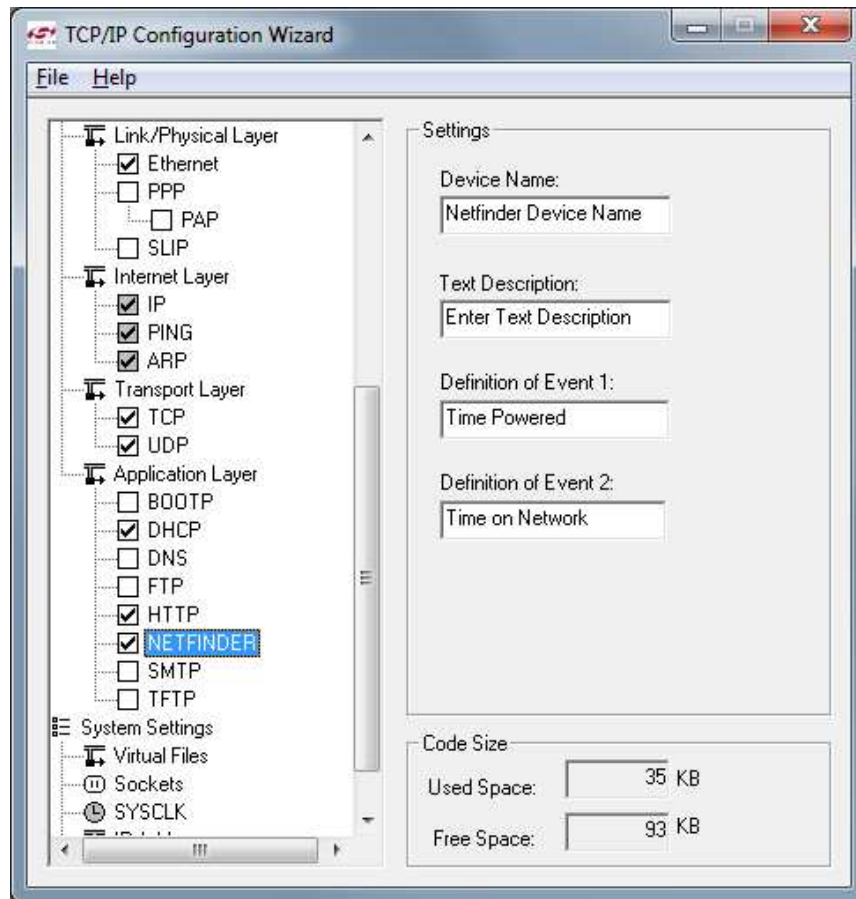

Figure 12. TCP/IP Configuration Wizard Protocol Selection
4. In the **Protocol Settings** section of the left window, make sure **Ethernet** is selected then check **DHCP**, **HTTP**, and **NETFINDER**. The lower level protocols (TCP and UDP) will automatically be enabled as shown in Figure 12.